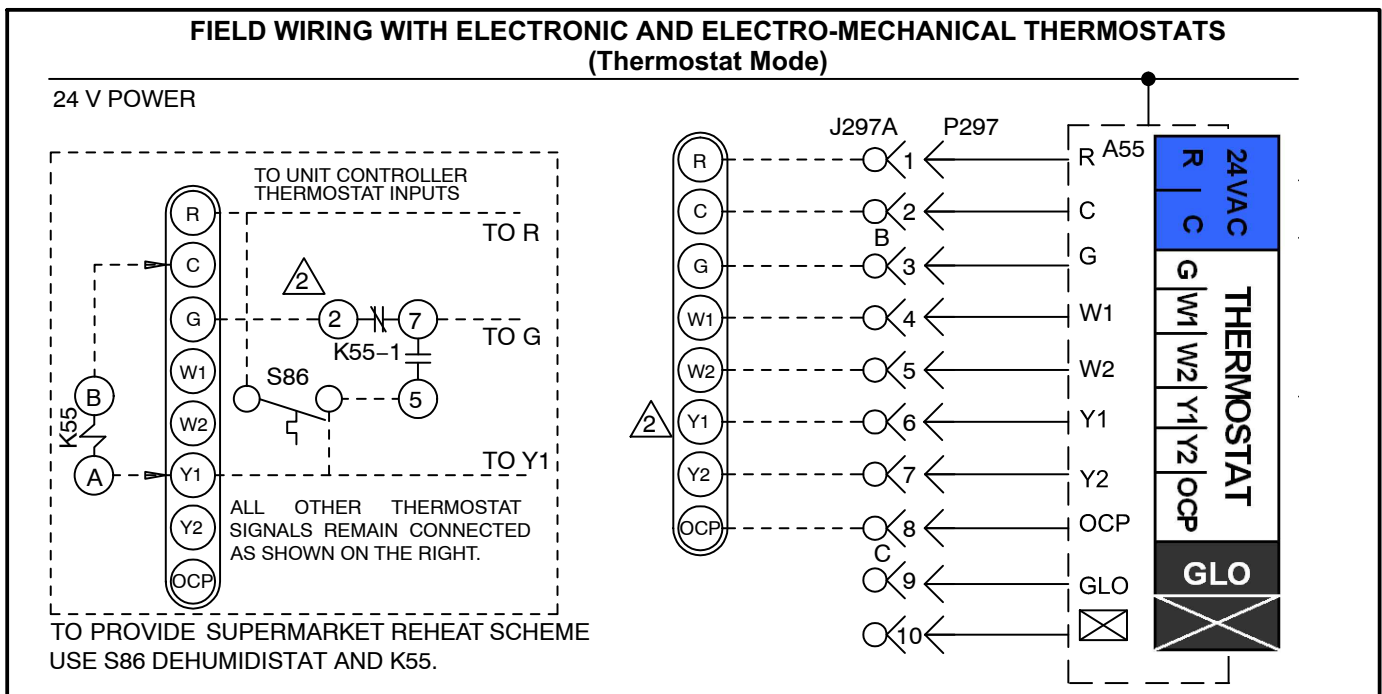
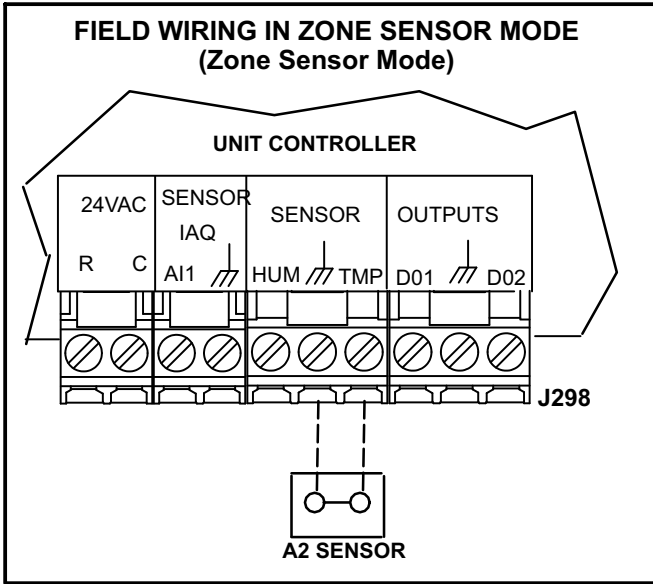
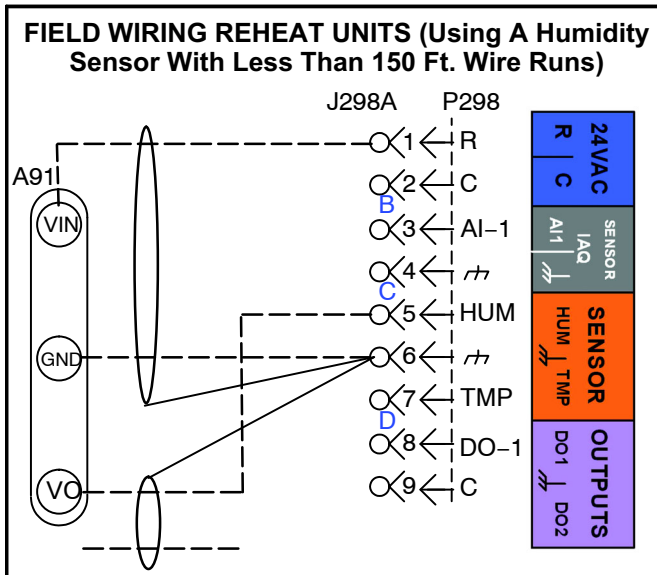

FIGURE 15
FIGURE 16
FIGURE 17
- 4- Wire as shown in figure 15 for electro-mechanical and electronic thermostats. If using other temperature control devices or energy management systems see instructions and wiring diagram provided by manufacturer.
The Unit Controller will operate heating and cooling based on the Unit Controller internal setpoints and the temperature from the A2 zone sensor. An optional Network Control Panel (NCP) can also be used to provide setpoints. A thermostat or return air sensor can be used as a back-up mode. Make zone sensor wiring connections as shown in figure 16.
- 2- Make wiring connections as shown in figure 15 for Thermostat Mode or figure 16 for Zone Sensor Mode. In addition, connect either a humidity sensor or a dehumidification input. See figure 17 or 18 for humidity sensor wiring or figure 19 for dehumidification input wiring.
Use two separate shielded cables containing 20AWG minimum, twisted pair conductors with overall shield. Belden type 8762 or 88760 (plenum) or equivalent. Connect both cable shield drain wires to the Unit Controller as shown in figure 17.
Use two separate shielded cables containing 18AWG minimum, twisted pair conductors with overall shield. Belden type 8760 or 88760 (plenum) or equivalent. Connect both cable shield drain wires to the Unit Controller as shown in figure 17.